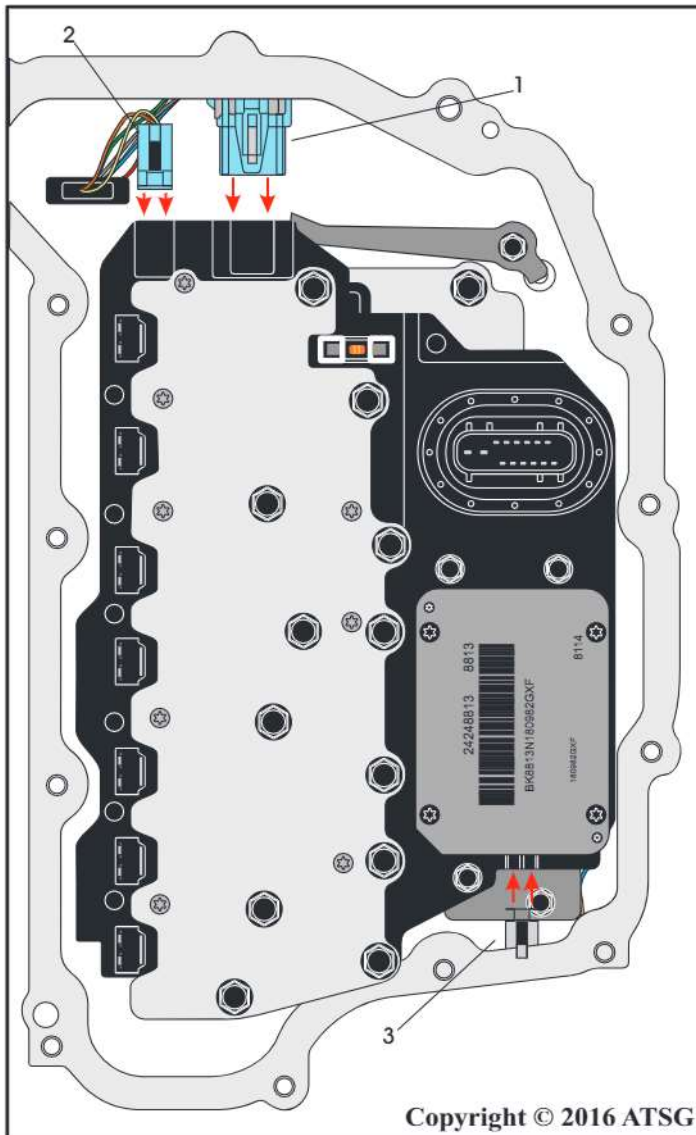

Figure 179
122. Connect the Shaft Position Switch connector (1) as shown in Figure 179.
123. Connect the Output Speed Sensor connector (2) as shown in Figure 179.
124. Connect the Input Speed Sensor connector (3) as shown in Figure 179.